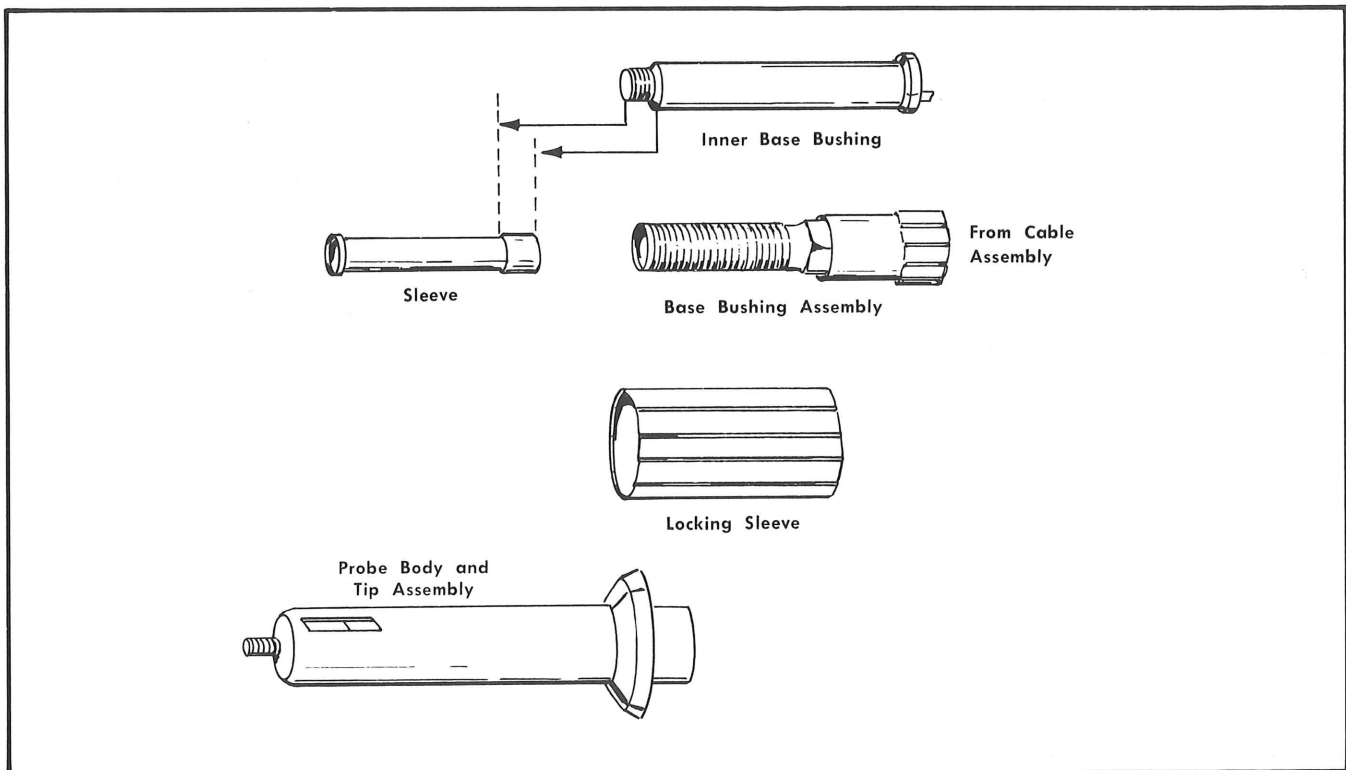

Fig. 3-1. P6008 Probe Body Assembly.
4. Turn the Locking Sleeve to unlock the Probe Body and Tip Assembly and remove both by unscrewing from the end of the Base Bushing Assembly (see Fig. 3-1).
If the 9-megohm resistor (R1) fails, do not try to replace the resistor. Replace the entire Probe Body and Tip Assembly as shown in Fig. 3-1. Order from your local Tektronix Field Office.